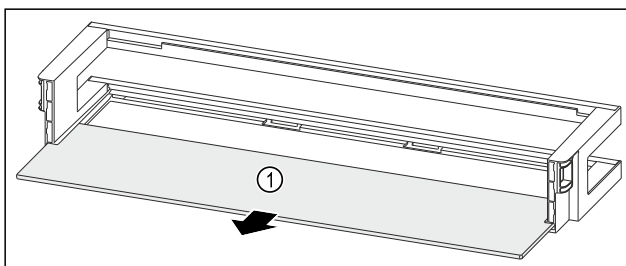

Fig. 109 Door racks with shelf
- Remove the shelf Fig. 109 (1).